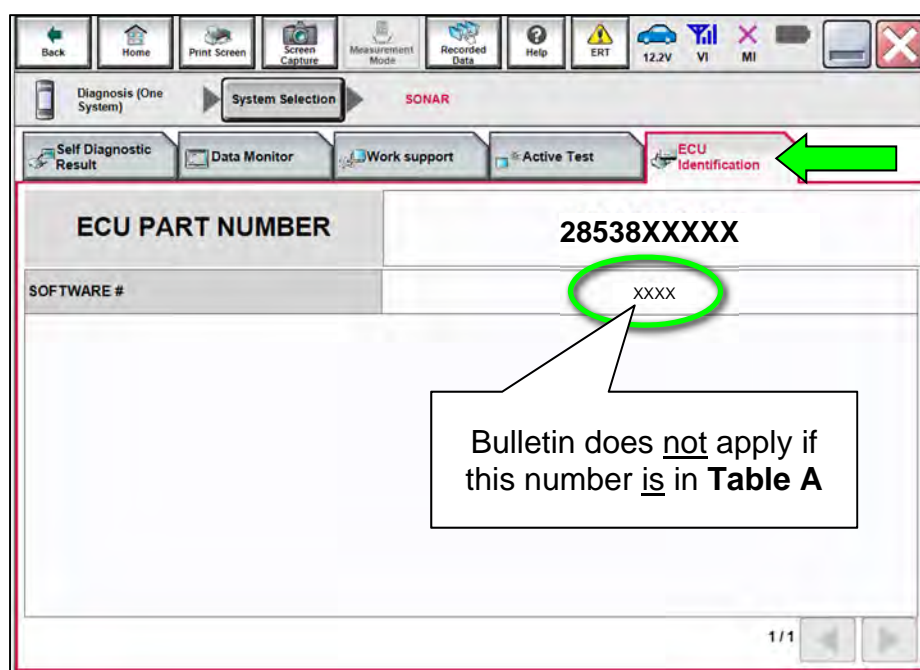

Figure 5
13. Confirm the current **SOFTWARE #** (Figure 5). See **Table A** (below) for model specific **SOFTWARE #**.